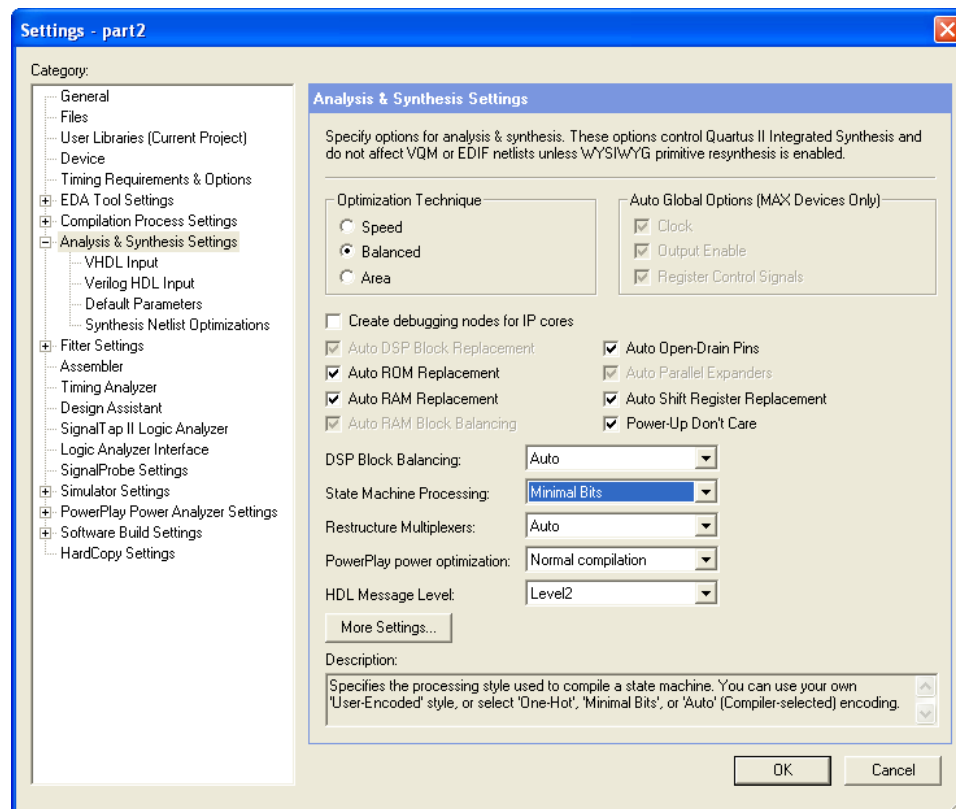

Figure 4. Specifying the state assignment method in Quartus II.
3. Before compiling your code it is possible to tell the Synthesis tool in Quartus II what style of state assignment it should use. Choose **Assignments > Settings** in Quartus II, and then click on the **Analysis and Synthesis** item on the left side of the window. As indicated in Figure 4, change the parameter **State Machine Processing** to the setting **Minimal Bits**.